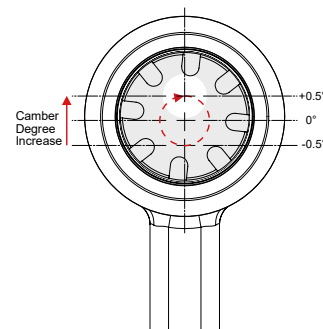

Figure 2
8. Use the included spanner to rotate the sleeve to provide a range of camber to the wheels see figure 2.